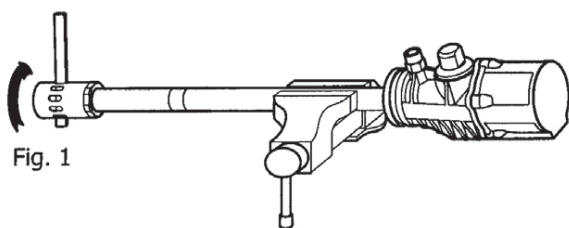

Fig. 1
2. Unscrew the intake filter tube (42) from the intake filter head (39) (fig. 1).